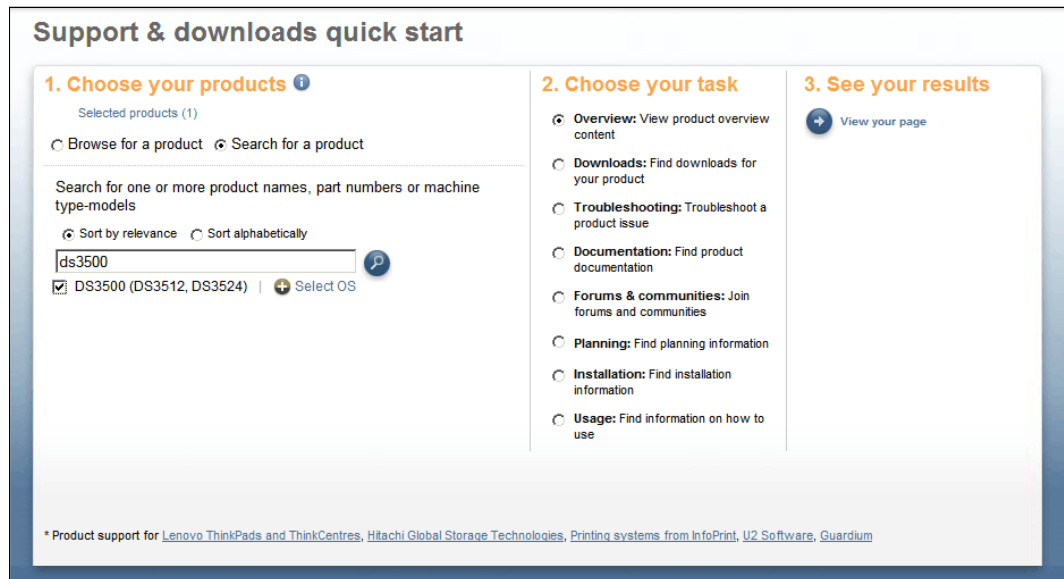

Figure A-3 Select the DS3500
3. Select the check box beside the **DS3500 (DS3512, DS3524)** and then click the **View your page** link as shown in Figure A-3.